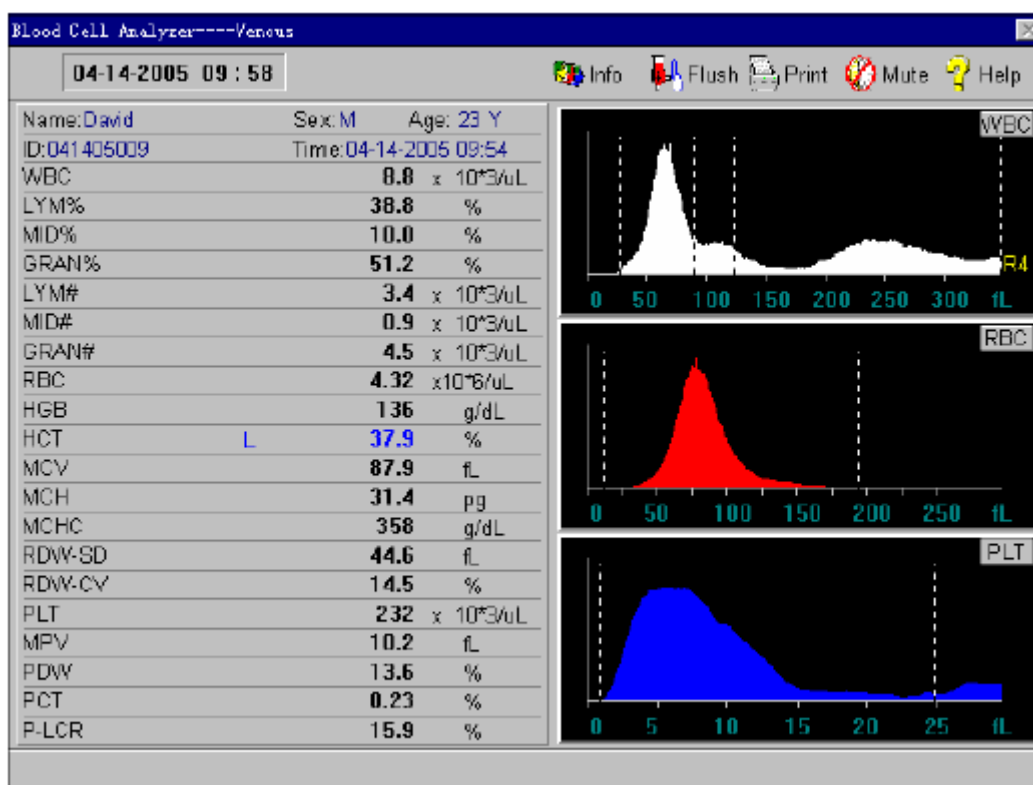

Figure 3-1
After self-test, the instrument will access blood cell analyzer window, as shown in Figure 3-1.
- c) After the analysis finished, the result will be displayed in the rear of the corresponding parameters on blood cell analyzer window of the instrument, with histograms WBC, RBC, and PLT. As shown in figure 3-1.